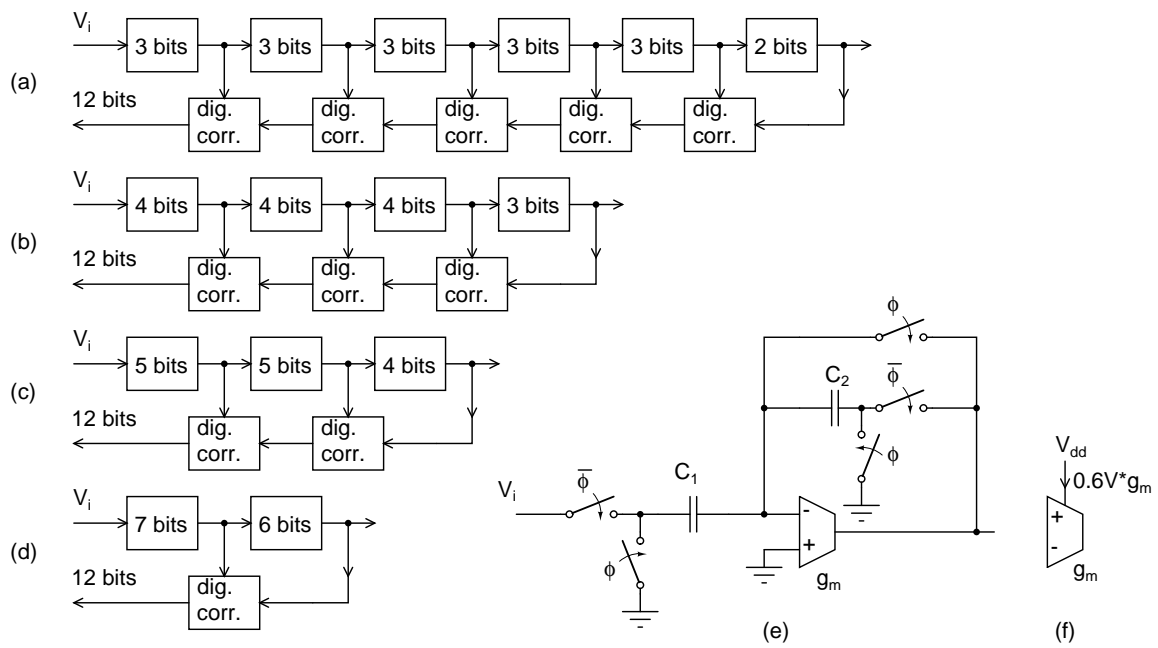

Figure 2:
3. Four alternative architectures for a 12 bit 100 MS/s A/D converters are shown in Fig. 2(a-d). The interstage amplifiers use the topology in Fig. 2(e). They use a single stage opamp, shown in Fig. 2. For each architecture, calculate the following and tabulate the results. V_{ref} is 1 V for all stages.
- (g) Total current consumption in the opamps. Assume that the current required to realize a transconductor g_m is $(g_m \times 0.6 \text{ V})$. (Fig. 2(f))